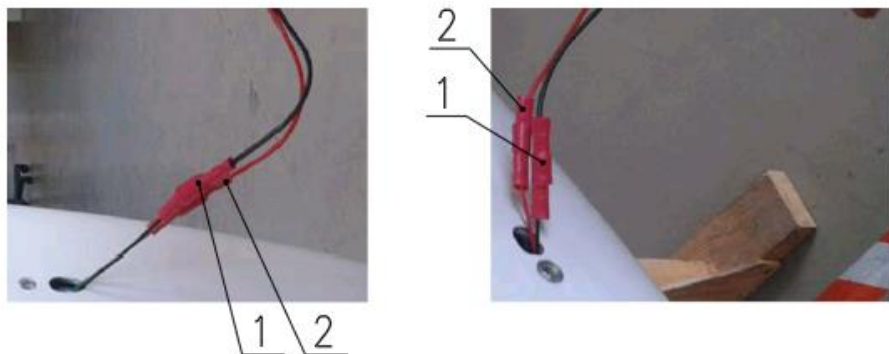

Fig. 33-40-4
8	Disconnect socket item 1 and plug item 2 (Fig. 33-40-4).